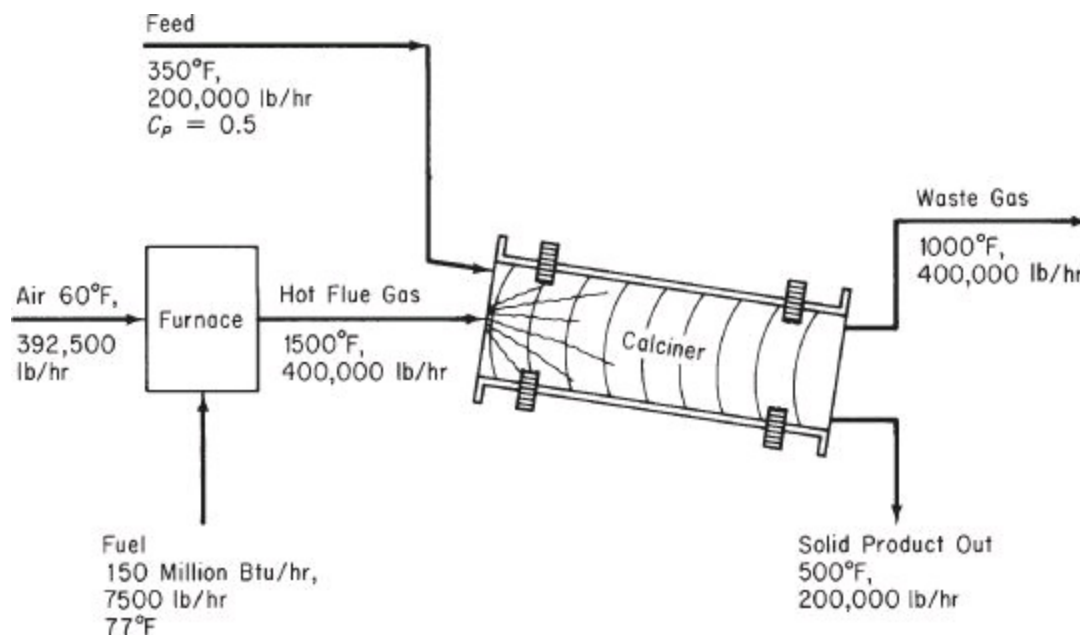

Figure P16.4
16.4. Figure P16.4 shows a calciner and the process data. The fuel is natural gas. How can the energy efficiency of this process be improved by process modification? Suggest at least two ways based on the assumption that the supply conditions of the air and fuel remain fixed (but these streams can possibly be passed through heat exchangers). Show all calculations.